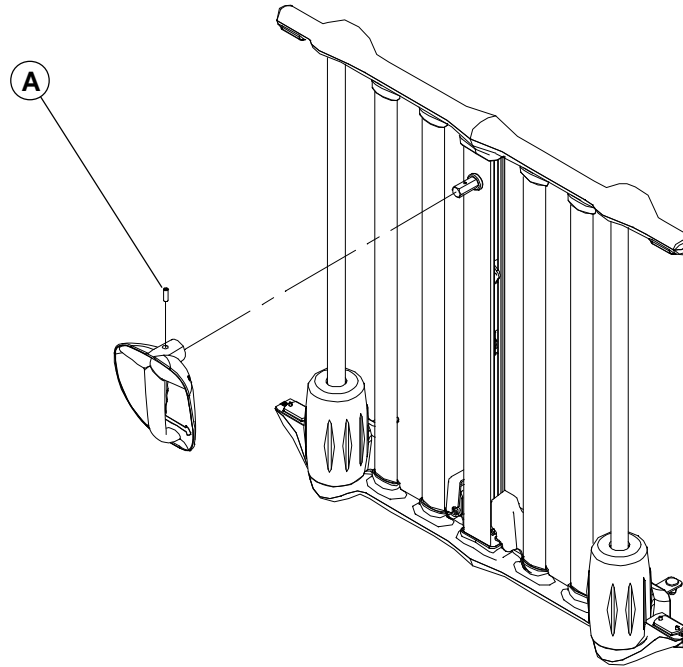

Figure 3.14A
2. Using a 3/32" Allen Key, remove the set screw (A, fig 3.14A, page 31) holding the handle assembly to the shaft. Remove the handle assembly.
- Using a Phillips screwdriver, remove the eight screws (B) holding the rail upper plastic cover (C) to its lower counterpart (D). If working on a siderail, open the access doors to reach the last screw on each end of the lower plastic cover. Note that on a siderail with fixed access doors, these two last screws are not present.